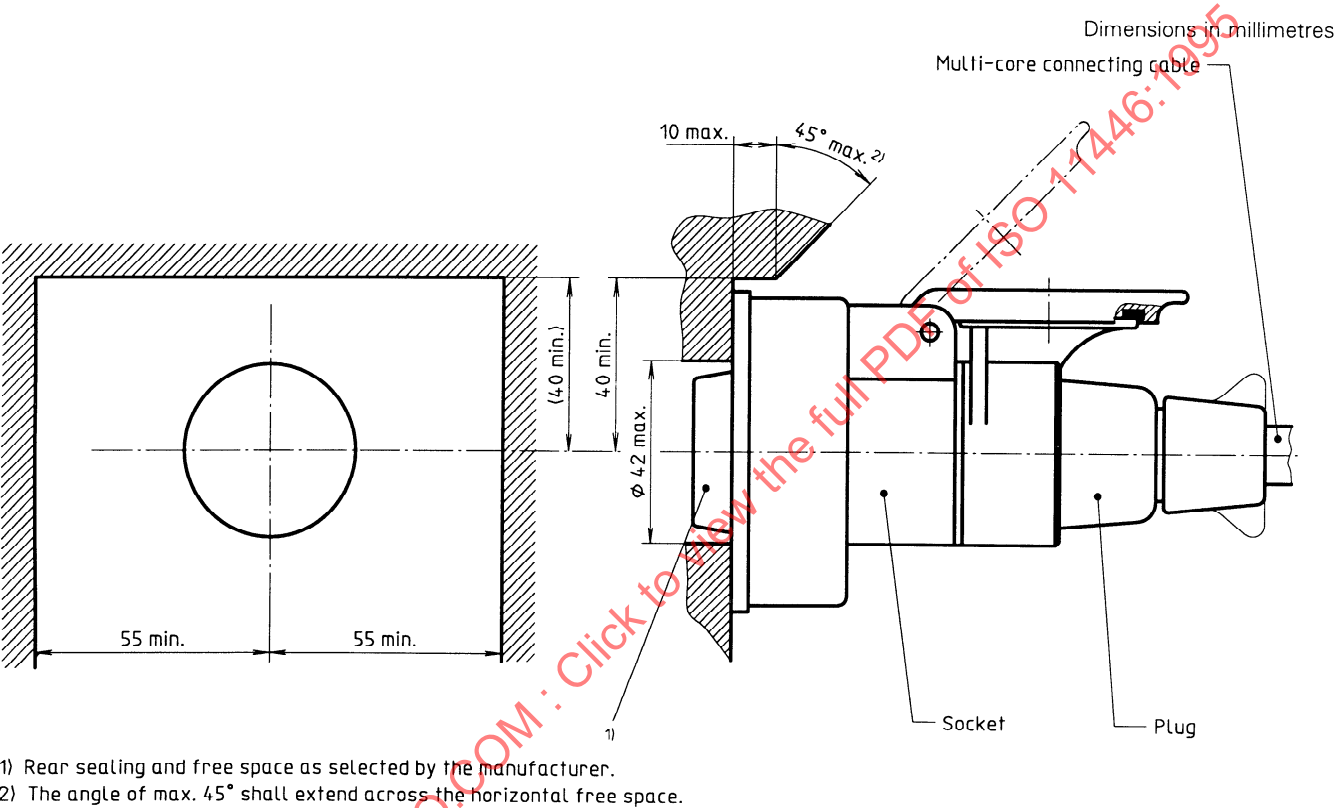

Figure 4 — Free space
5.2 The minimum free space around the connector shall be as specified in figure 4.